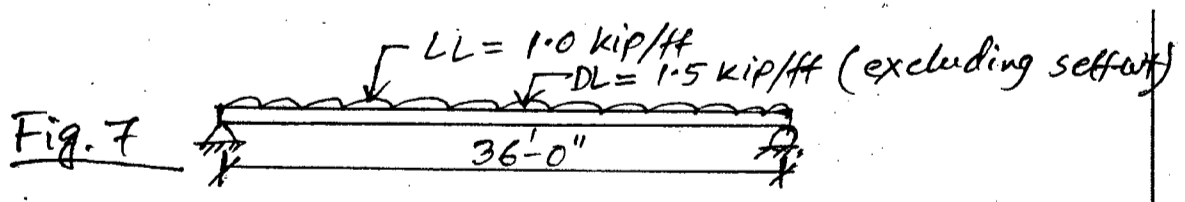

Fig. 7
(b) Design a singly reinforced beam shown in Fig. 7. The dead load does not include self weight of the beam. Given:  $f'_c = 3.5$  ksi and  $f_y = 60$  ksi. (15)
6. (a) A reinforced concrete one-way slab is built integrally with its supports and consists of two equal spans, each with a clear span of 16 ft. The service live load on the slab is 120 psf. Design the slab by USD method and show the reinforcements with neat sketches. Give:  $f'_c = 3.0$  ksi and  $f_y = 60$  ksi. (20)